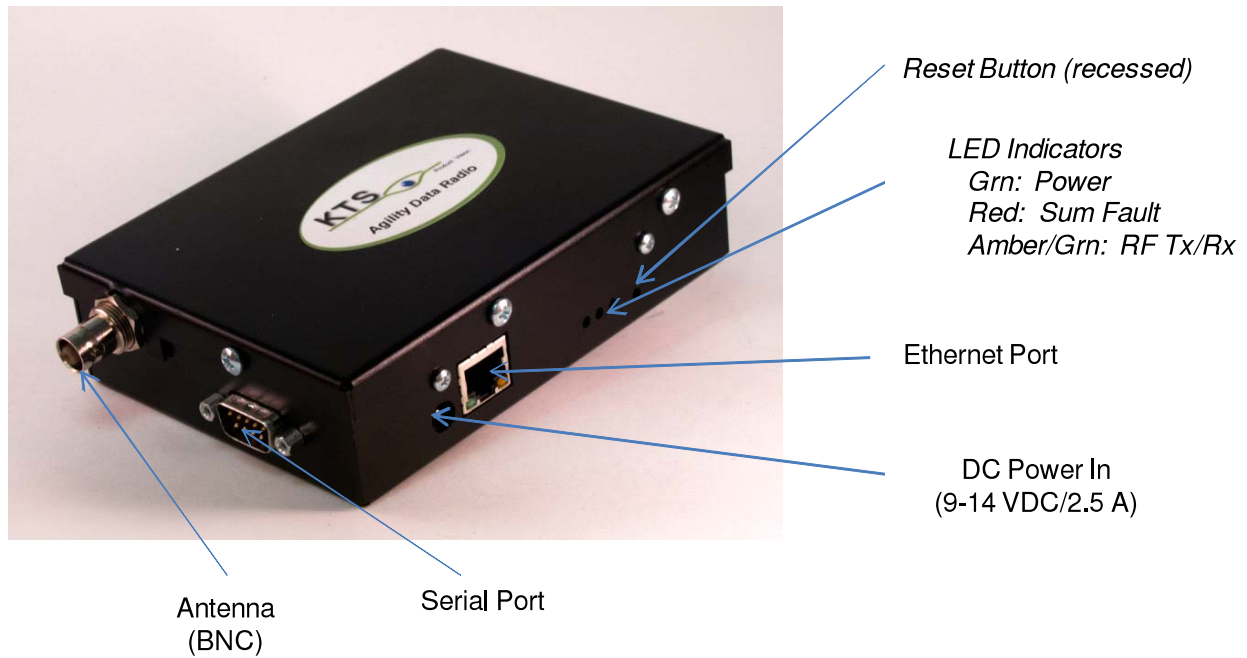
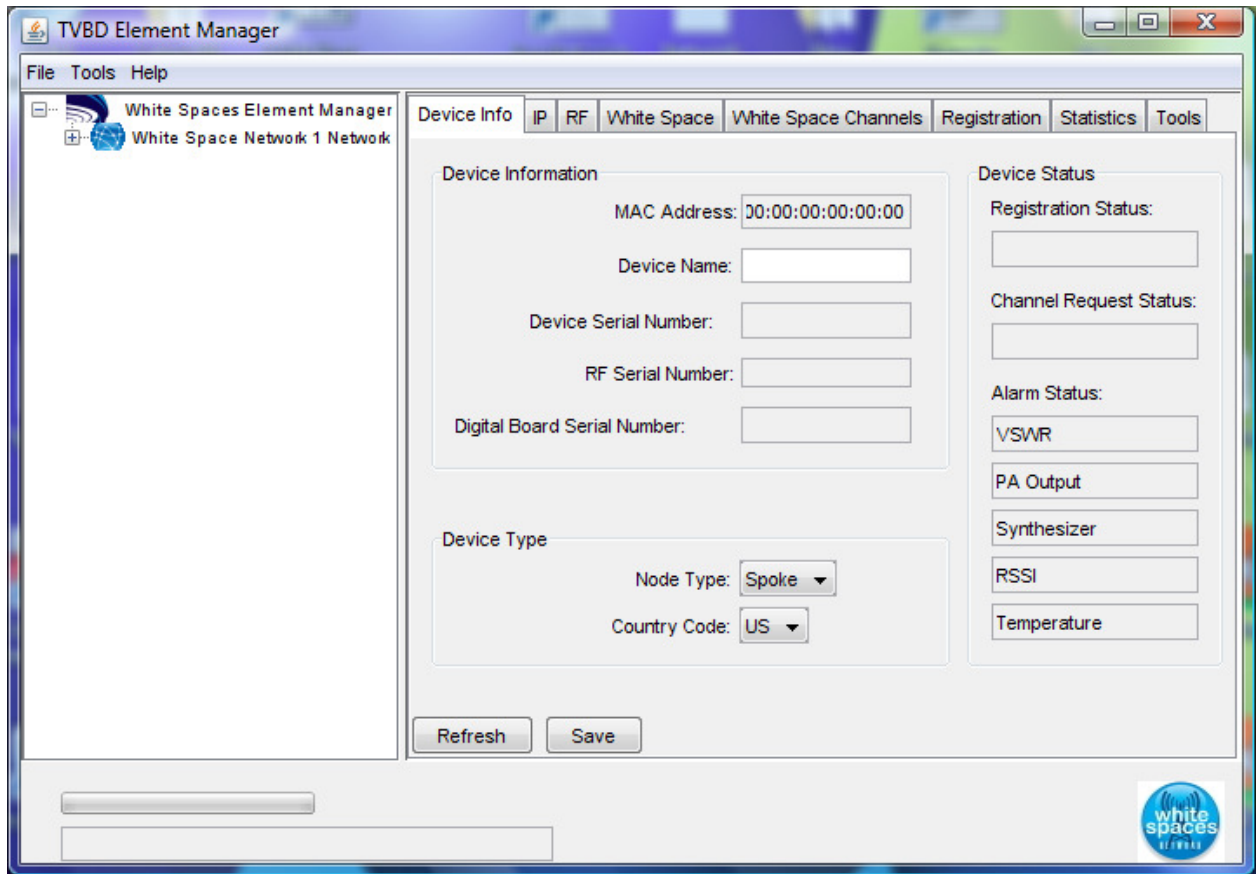

Figure 1: AWR Connections
Figure 3: TVBD EMS Main Screen
2. Locate the coaxial cable to the antenna. This should be a good quality, low-loss cable that is as short as possible. This cable should include an in-line surge arrestor to prevent lightning strike damage to the radio. The cable should have a BNC (F) connector or an adapter will be needed. See the KTS Wireless website for ordering information, if one is needed.
3. Locate the power source. The AWR requires a 9-14 VDC input and draws about 1.5 A (when transmitting). Power is supplied via the 2.5 mm connector on the side of the unit (See Figure 1). A power cable pigtail is available (ordered separately) and can be used to connect the AWR to an existing power supply. Alternately, a separate power supply with the proper 2.5mm connector can be purchased directly from the supplier or from KTS Wireless. See the website for ordering information.
6. After the installation process is complete and a valid password is entered, the Device Info screen will appear (See Figure 3). Contact KTS Wireless to obtain your password. **Section 4.0 of this manual contains the details of using the TVBD Element Management System (EMS)**. Jump to Section 4.0 for details on setting up the EMS and resetting the AWR IP addresses (i.e., changing from the default value). **The default IP address of the AWR is 192.168.1.4.** **Note: Pressing and holding the recessed Reset button (See Figure 1) for at least 12 seconds will force the radio back to its default settings.**